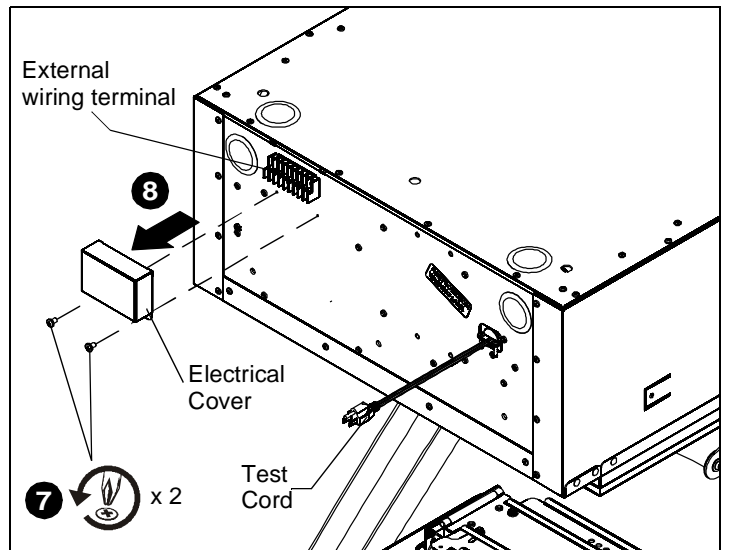

Figure 4
7. Remove and save two screws holding side electrical cover in place. (See Figure 4)
8. Remove electrical cover. (See Figure 4)
10. Plug in the SL236 test cord. (See Figure 4)